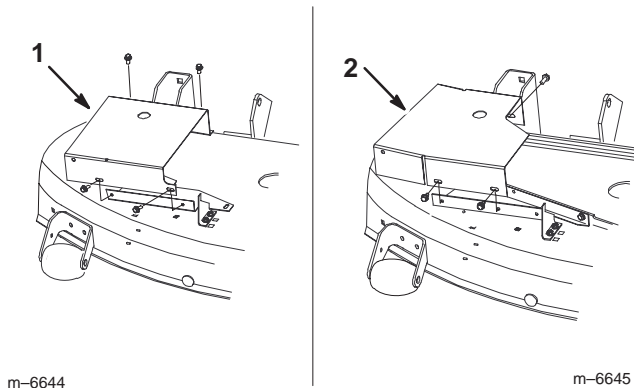

Figure 36
1. Remove the mower belt cover from the right side pulley (Fig. 36). Save the mounting hardware.